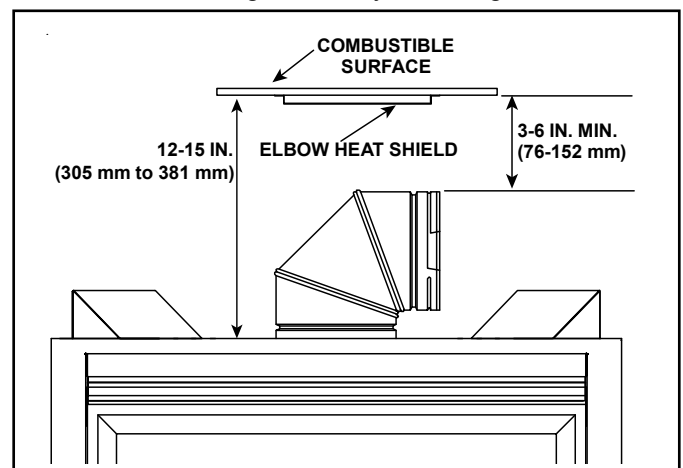

Figure 6.2 Elbow Heat Shield Installation Location
2. If the combustible materials are to be installed between 12 to 15 inches above the top of the appliance, the elbow heat shield is required. See Figure 6.2.
1. The elbow heat shield is not required if combustible materials, or combustible chases, are installed a minimum of 6 inches above the top of the elbow. See Figure 6.2.
2. If the combustible materials are to be installed between 3 inches and 6 inches above the top of the elbow, the elbow heat shield is required. See Figure 6.2.
2. Fasten the shield in place using the four pilot holes. The shield should be oriented such that the 13 1/8 inch dimension (longest dimension) is running in the same direction the elbow is pointing. The shield should be centered directly above the elbow, and positioned so that it creates a 1/2 inch airspace between the shield and the combustible surface. See Figure 6.2.